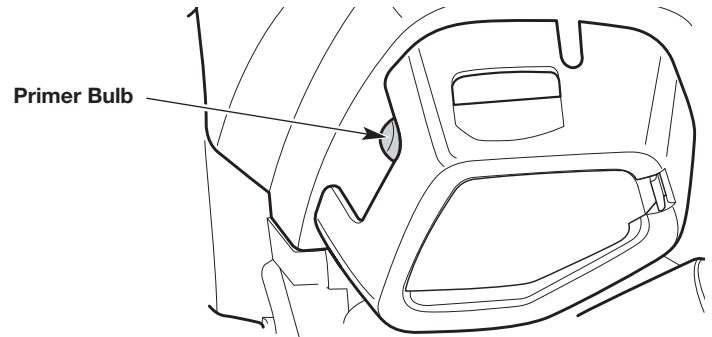

Fig. 16
1. Slowly press and release the primer bulb **10 times** (Fig. 16).